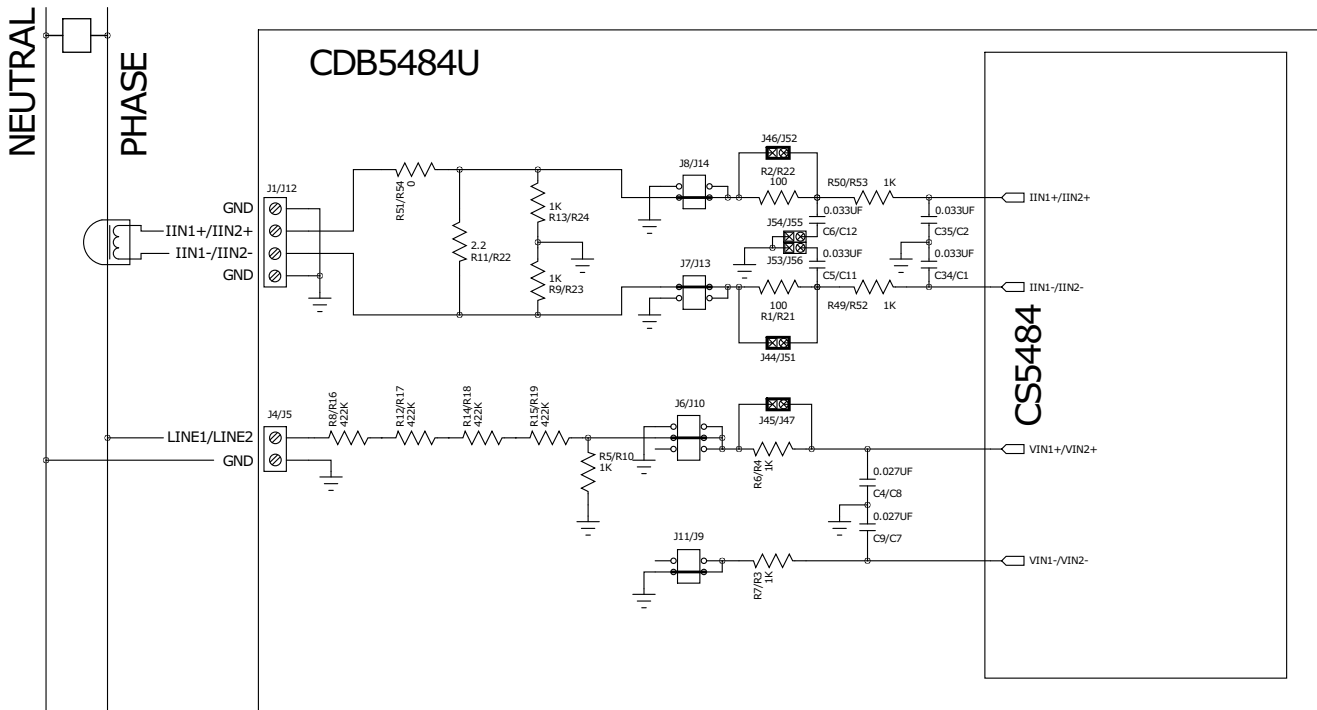

Figure 7. Current Transformer Power Meter
A slightly more expensive option is to use a current transformer (CT) to connect the AC mains to the CDB5484U evaluation board. Figure 7 depicts the voltage and current connections for a CT sensor and its associated filter configurations.